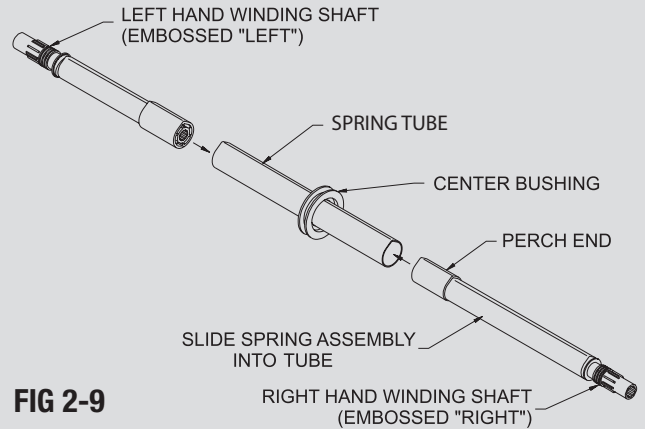

FIG 2-9
- 1 Slide new spring(s), perch end first in spring tube. Single spring applications will not have a left spring - **FIG 2-9**